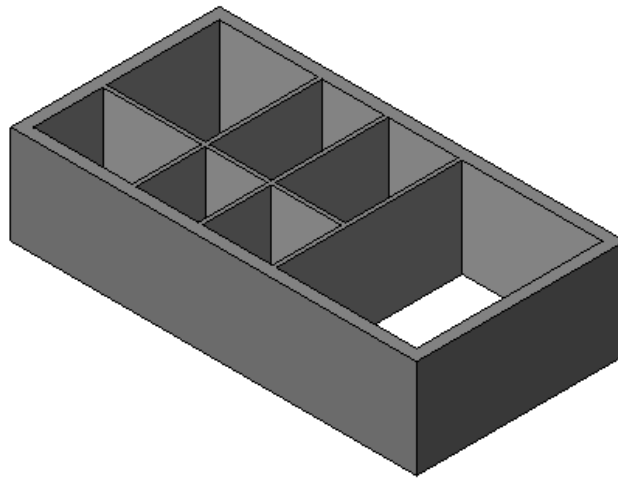

Figure 3-62 3D view of the Apartment 1 building model
9. Now, choose the **Model Graphics Style** button from the **View Control Bar**; a flyout is displayed. Choose the **Shading with Edges** option from this flyout; the 3D view is displayed with shading with edges visible, as shown in Figure 3-62.